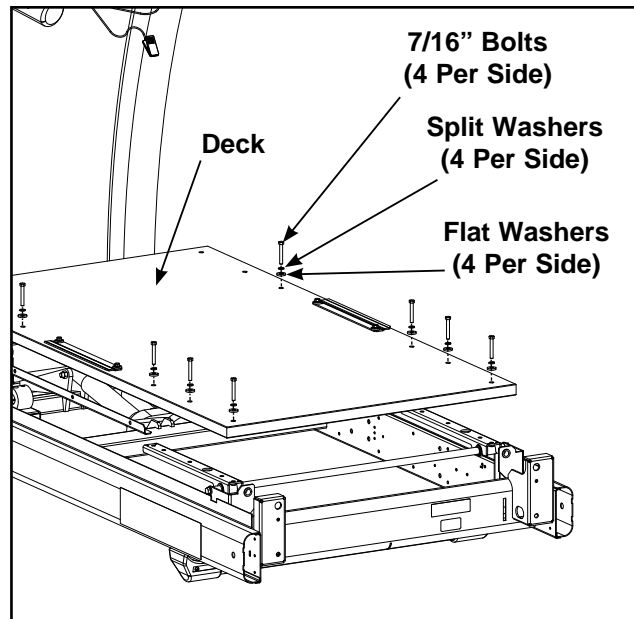

Figure 13
- A. Using a 7/16" Socket wrench, remove the eight screws, eight split washers and eight flat washers that hold the deck in place. See Figure 13.
- B. Using a 7/16" Socket wrench, install and tighten the eight screws, eight split washers and eight flat washers that hold the deck in place. See Figure 13.